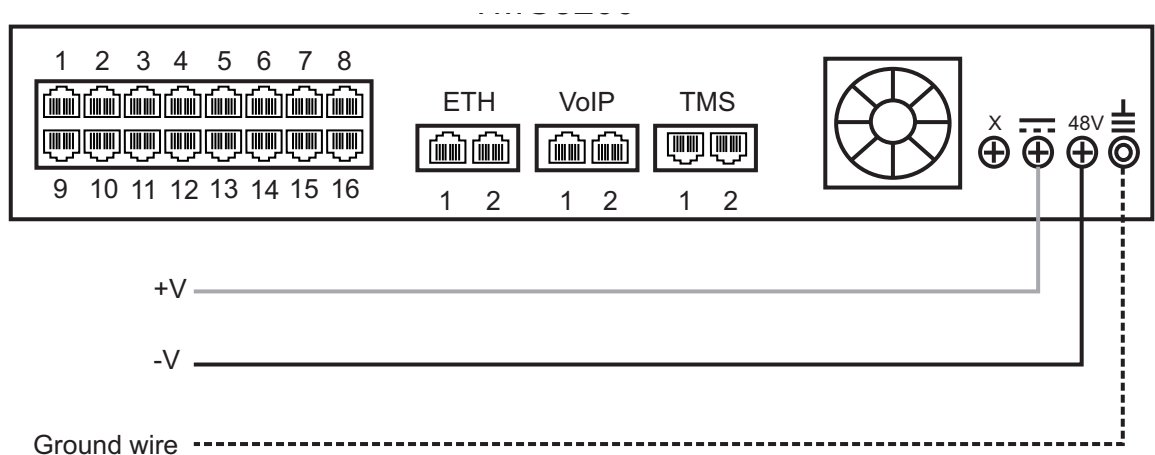

Figure 2.10 TMG5800 DC wiring diagram
1. Connect a ground wire to the ground lug located at the rear of the TMG5800, as shown in figure 2.10 on page 20.